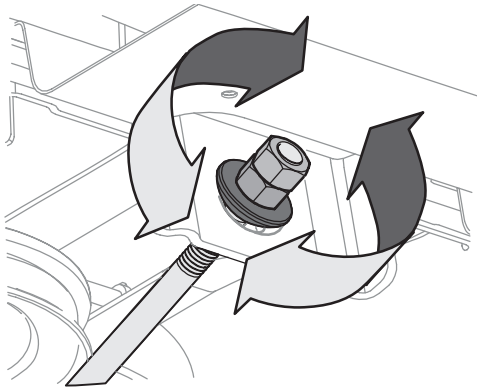

Figure 25
4. To **raise** the front of the deck, loosen the outer nut then tighten (thread inward) the inner nut against the front hanger bracket (Figure 25 on page 26). When proper adjustment is achieved, re-tighten the outer nut to 25-30 ft-lbs (34-41 N-m).
- To **lower** the front of the deck, loosen the outer nut then loosen (thread outward) the inner nut, away from the front hanger bracket (Figure 25). When proper adjustment is achieved, re-tighten the outer nut.